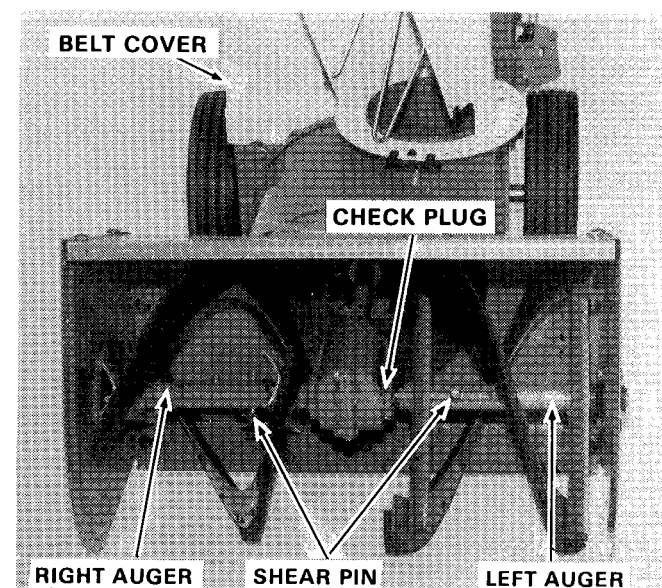

Figure 3. Shear Pins, Check Plug and Belt Cover Location
2. The auger gear case has been factory lubricated for life. If for some reason lubricant should leak out, have auger gear case checked by your dealer. To check level, remove the check plug (figure 3). The fluid should be level with the hole. If not, add worm gear oil (available from your dealer).
The auger assembly is made up of a right and left auger. Each is secured with a shear pin (figure 3). These pins are designed to break (to prevent damage to snowthrower) if an object becomes lodged in the auger. Two shear pins have been furnished with your snowthrower. If additional pins are required, order genuine replacement pins. Use of a harder pin will destroy the protection provided by this special pin. To replace a broken shear pin proceed as follows:
1. Disconnect spark plug wire, tie back away from plug and remove belt cover (figure 3).